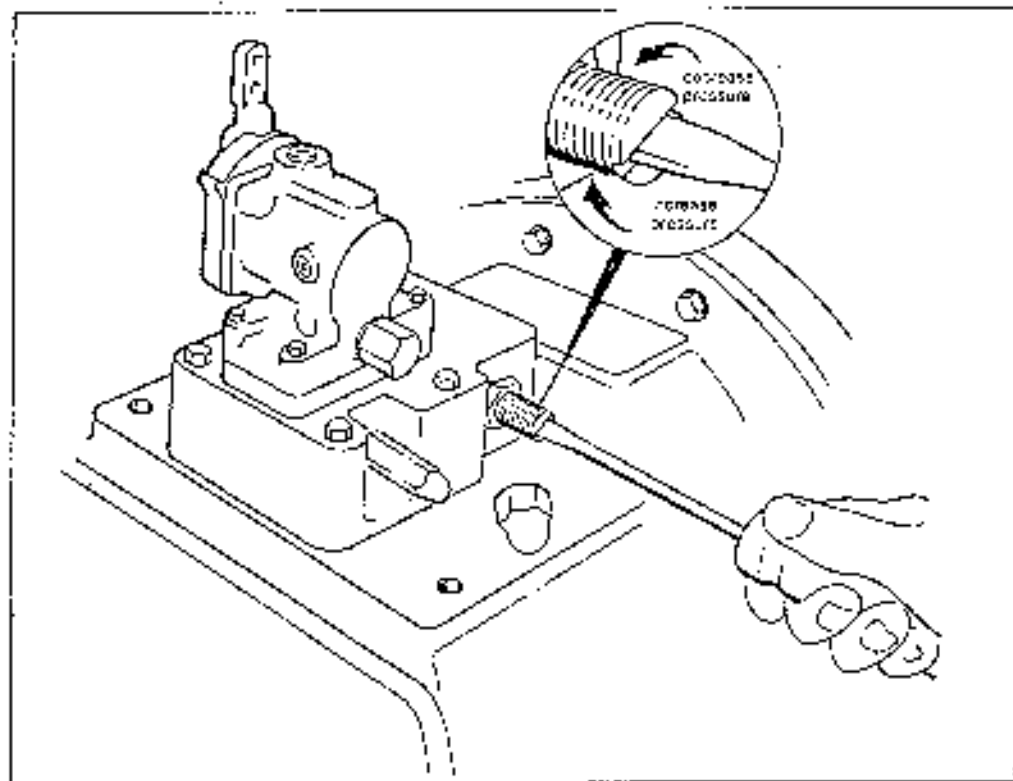

Fig. 17. Adjustment of oil pressure
Normally, unit pressure at idle start-up will be 180 PSI, but final adjustment must be made as noted above. See figure 17, below.
see fig. 17, page 10.
At periodic intervals record pressure readings at idle speed. A gradual decline is normal. Readjust pressure relief valve to maintain proper operating pressures. See fig. 17, p. 10.
5. Worn or incorrectly adjusted pump assembly.	Refer to oil pump section (Page 17) or fig. 17, p. 10.